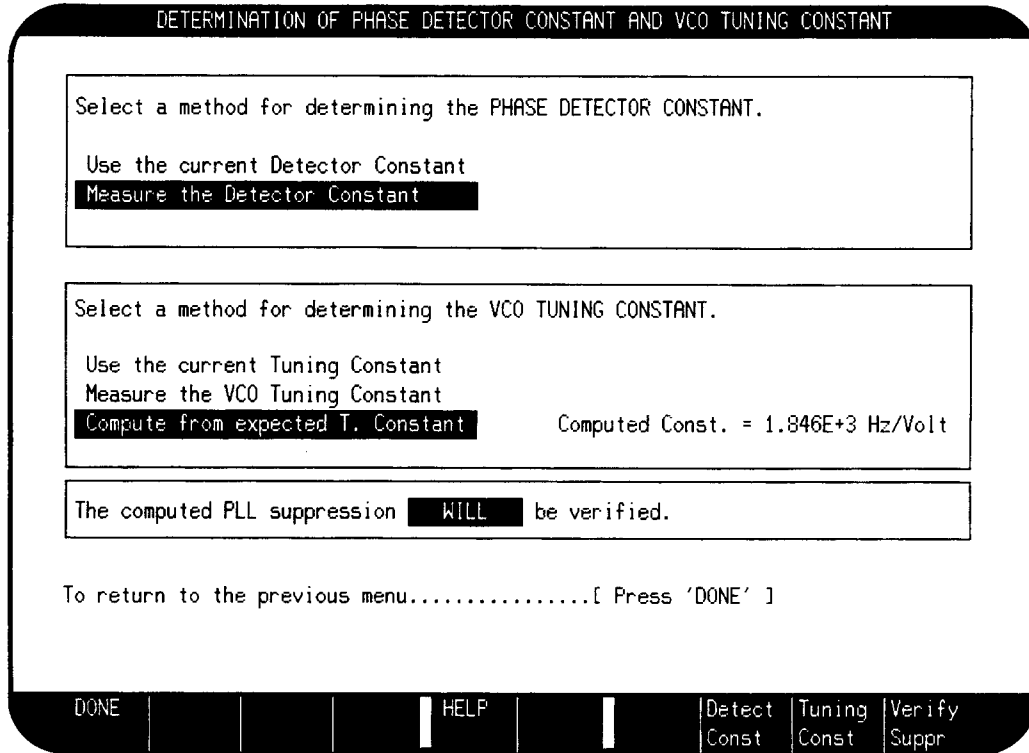

Figure 3-9. Determination of Phase Detector and VCO Tuning Constant Menu
- On the HP 3048A press the **Calibr Process** softkey to obtain the Determination of Phase Detector Constant and VCO Tuning Constant menu. Set the method of determining the phase detector and VCO tuning constants and the verification of the phase lock loop suppression as shown in figure 3-9. (The displayed Computed Constant may be quite different from the one in figure 3-9. It will be updated later.) When done, press the **DONE** softkey.